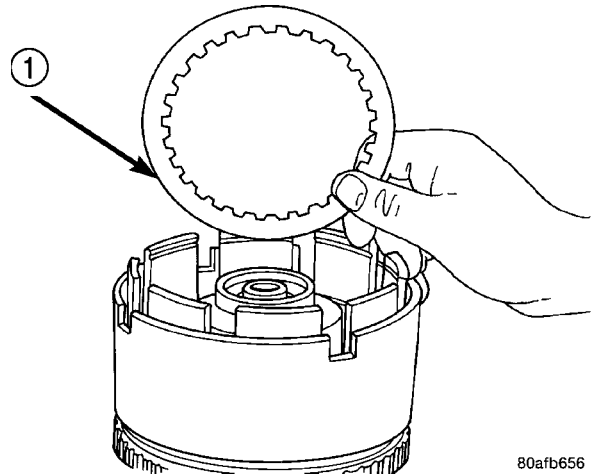

Fig. 260 Install Last UD Clutch Disc
(12) Install the last UD clutch disc (Fig. 260).